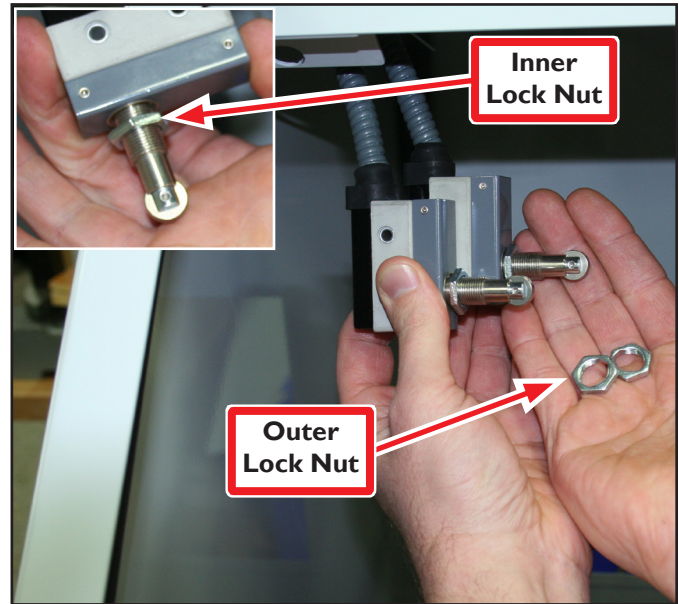

Figure 30
3. Adjust Limit Switch Roller height by removing Limit Switches from bracket and unscrewing Outer Lock Nut (see **Figure 30**).
4. Next, adjust Inner Lock Nut to desired height (see **Figure 30 inset**).